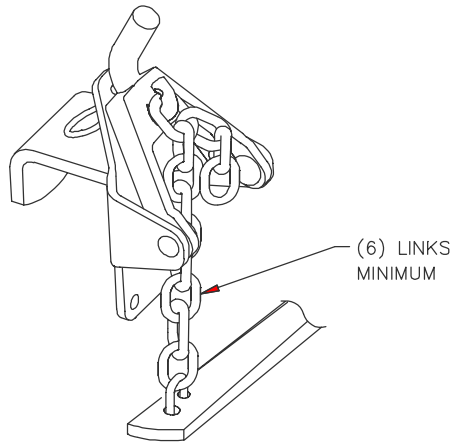

FIGURE 4
5. **There must be at least 6 links between the lift unit and the spring bar.** This is necessary for proper operation of the spring bars during turns (See figure 4). If there are less than 6 links, the angle of the head